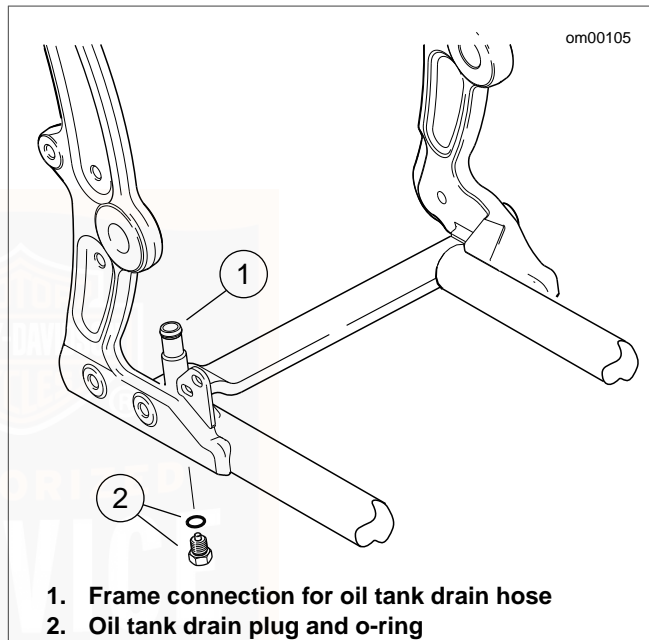

Figure 48. Oil Tank Drain Plug: Softail Models
2. See Figure 48. Remove engine oil drain plug with o-ring (2). Allow oil to completely drain into a suitable container.